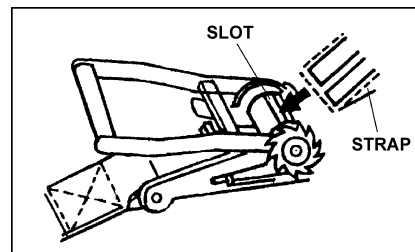

FIGURE 1
1. Insert end of strap through slot on ratchet wheel (Fig. 1). The strap can be inserted flat or folded. All hardware must be in line with direction of pull.